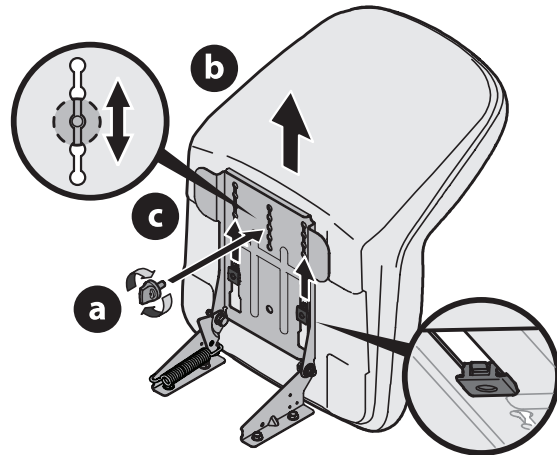

Figure 3
4. Slide the seat (b) rearward in the seat pivot bracket (c), lining up one of the slots in the seat pivot bracket (c) with the hole in the center rear of the seat (b) base (Figure 3).
**NOTE:** Be certain the two seat tabs engage the seat pivot bracket as shown in the bottom right inset of Figure 3.
5. Select the desired position for the seat (b), and secure with the adjustment knob or 9/16 inch bolt (a) removed in Step 2 (Figure 3).